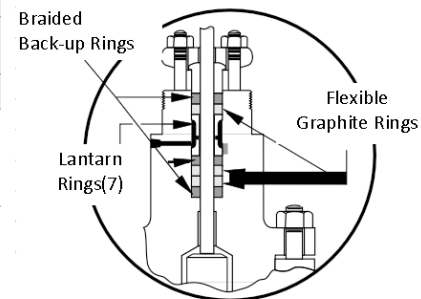

Figure 7 - Packing Ring arrangements with optional Lubricator Connection
Note: On valves equipped with an optional lubricator connection, refer to Figure 7 for correct amount of rings to place under the lantern ring (7).
E. Replace packing follower (5) and packing flange (4).
F. Replace and tighten packing stud nuts (3).
Note: On valves equipped with an optional lubricator connection, refer to Figure 7 for correct arrangement according to valve size.